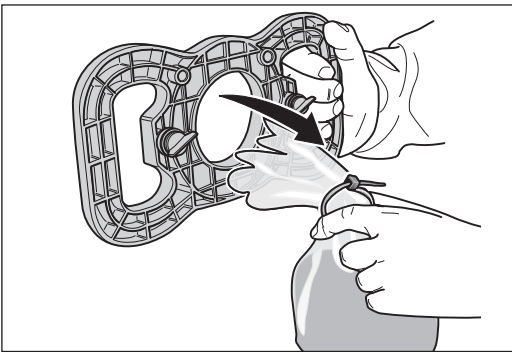
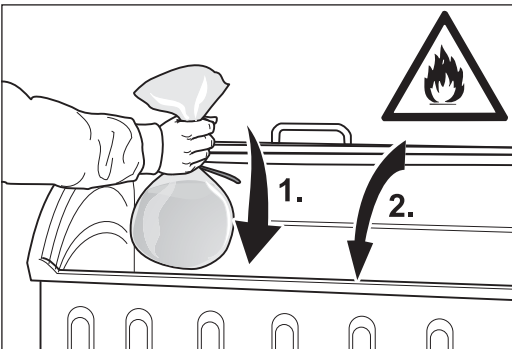

Fig. 26 Remove the waste bag from the emptying fixture.
Fig. 27 Throw the filled waste bag into a non-combustible container (1.) and keep this closed (2.) ➔ **risk of fire!**
- The dust bag must always be removed from the machine after sanding and emptied into a waste bag with the emptying fixture! Dispose of these waste bags in a non-combustible container! Cover this container with a non-combustible cover and be certain to store it and the dust bag outdoors (Fig. 27)!
- 19 Remove the filled waste bag from the emptying fixture (Fig. 26) and place it in a non-combustible container (Fig. 27). Due to the risk of fire, seal the container with a non-combustible cover!